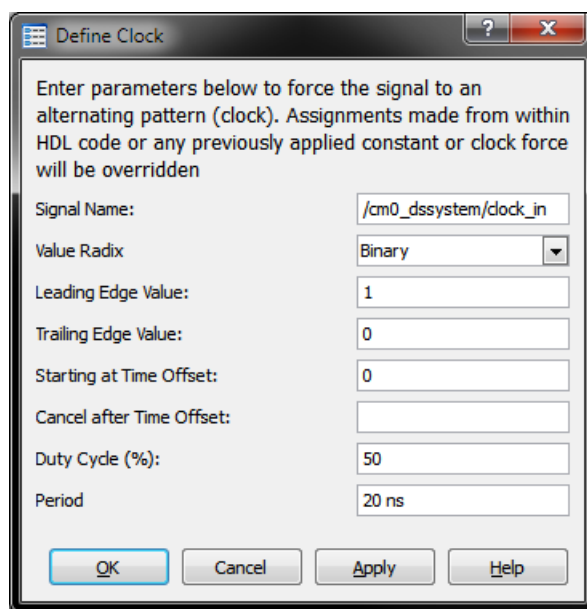

FIGURE 13 - CLOCK_IN PARAMETERS
3.3. Ignore the initial simulation ISIM displays as the clock signal is not yet defined. To do this, right click the "clock_in" signal and select the "force clock" option. Use the parameters shown below in Figure 13.